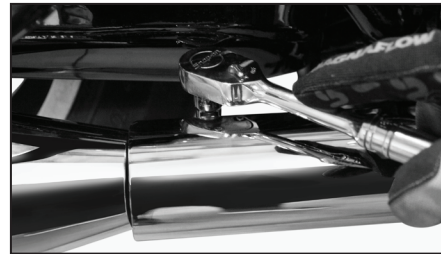

Fig.11
6. Tighten the muffler clamps to the recommended 45-50 Ft/Lbs. (Figure 11)